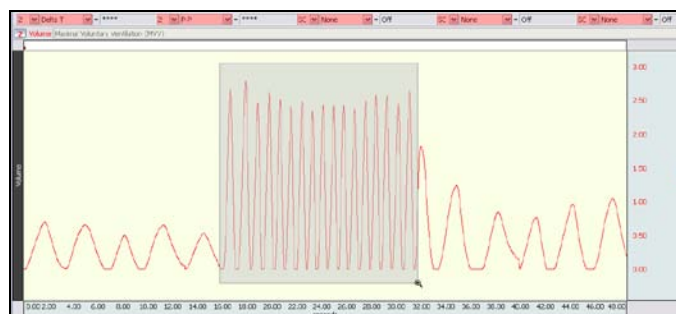

Fig. 13.25 Zoom in on rapid/deep breathing data
- Use the **zoom** tool to set up your display window for optimal viewing of the deep, fast breathing portion of the recording (Fig. 13.25).